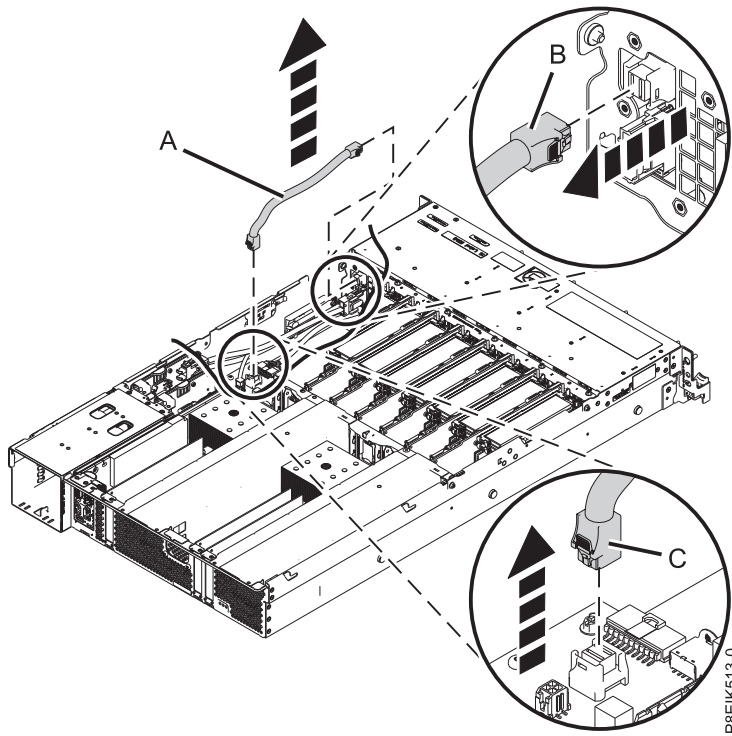

Figure 55. Removing the disk and fan signal cable
4. Label and disconnect the disk and fan signal cable (**A**) from the disk drive and fan card (**B**) and from the system backplane (**C**). Using your thumb, press the release latch on the connector to remove a cable. See Figure 55 on page 45.